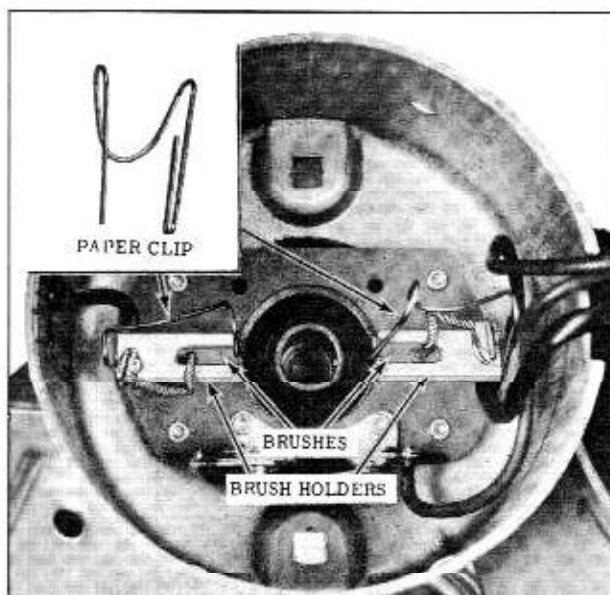

Fig. 13-113 Retaining Brushes
2. Install brush springs and brushes in holder. Retain brushes in holders with a brush retainer as shown in Fig. 13-113.